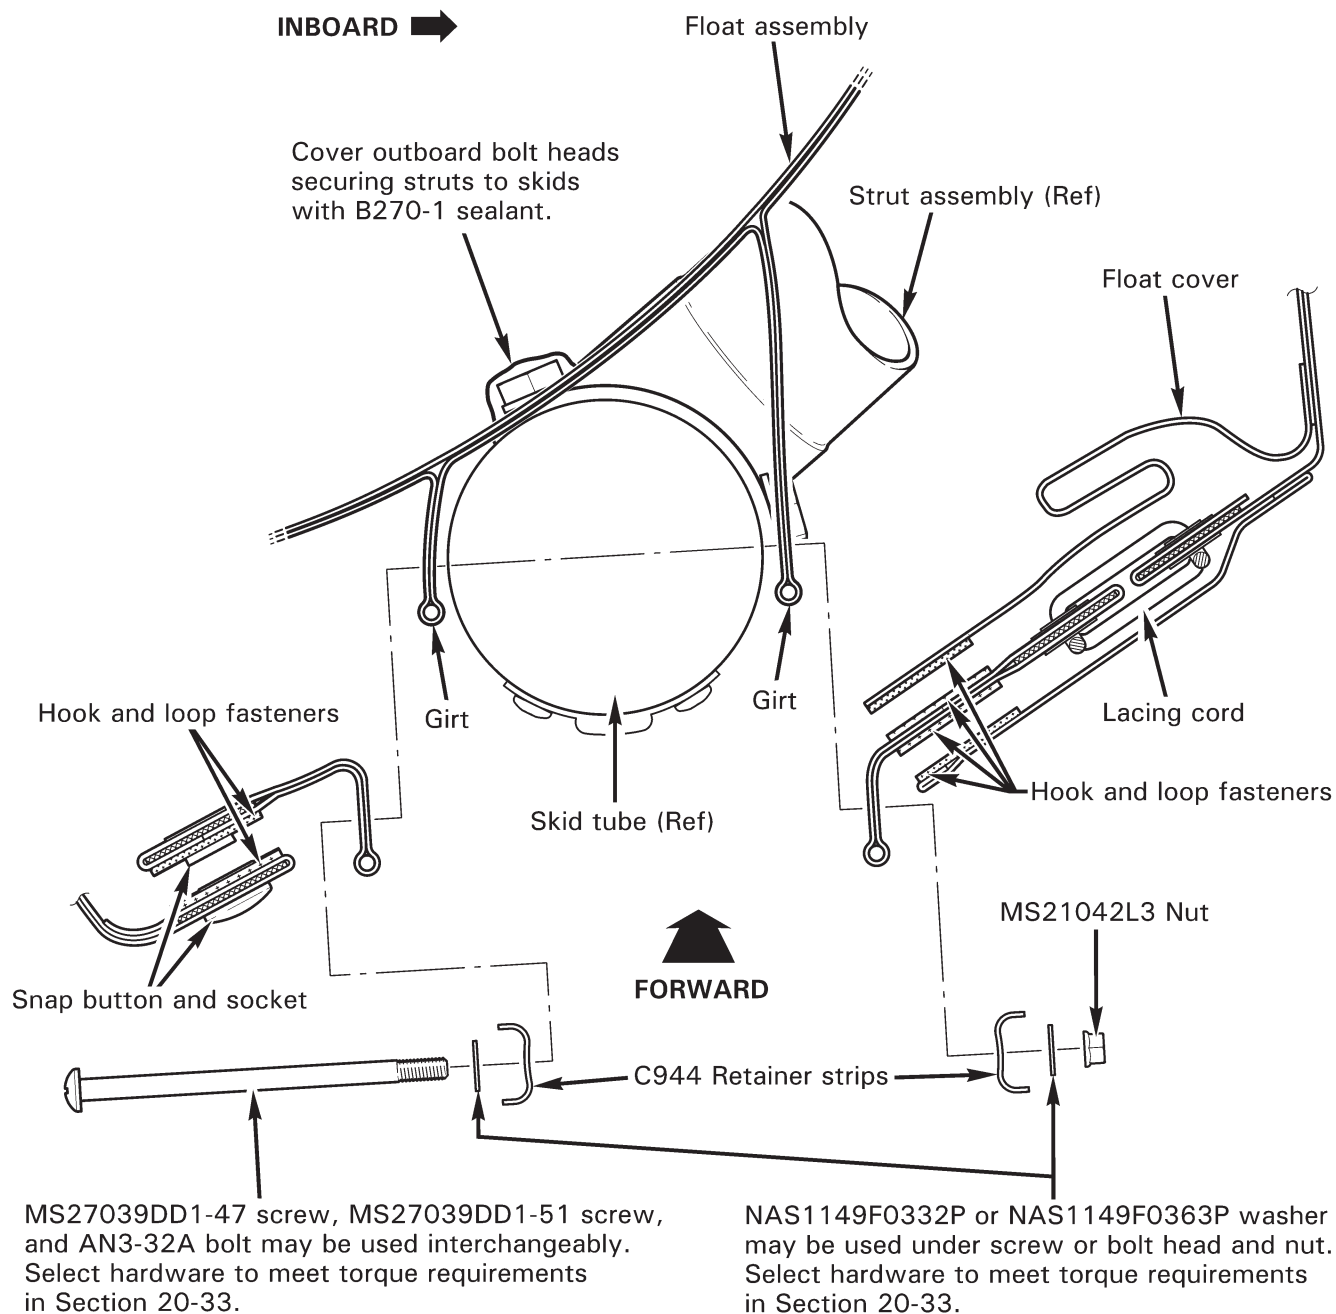
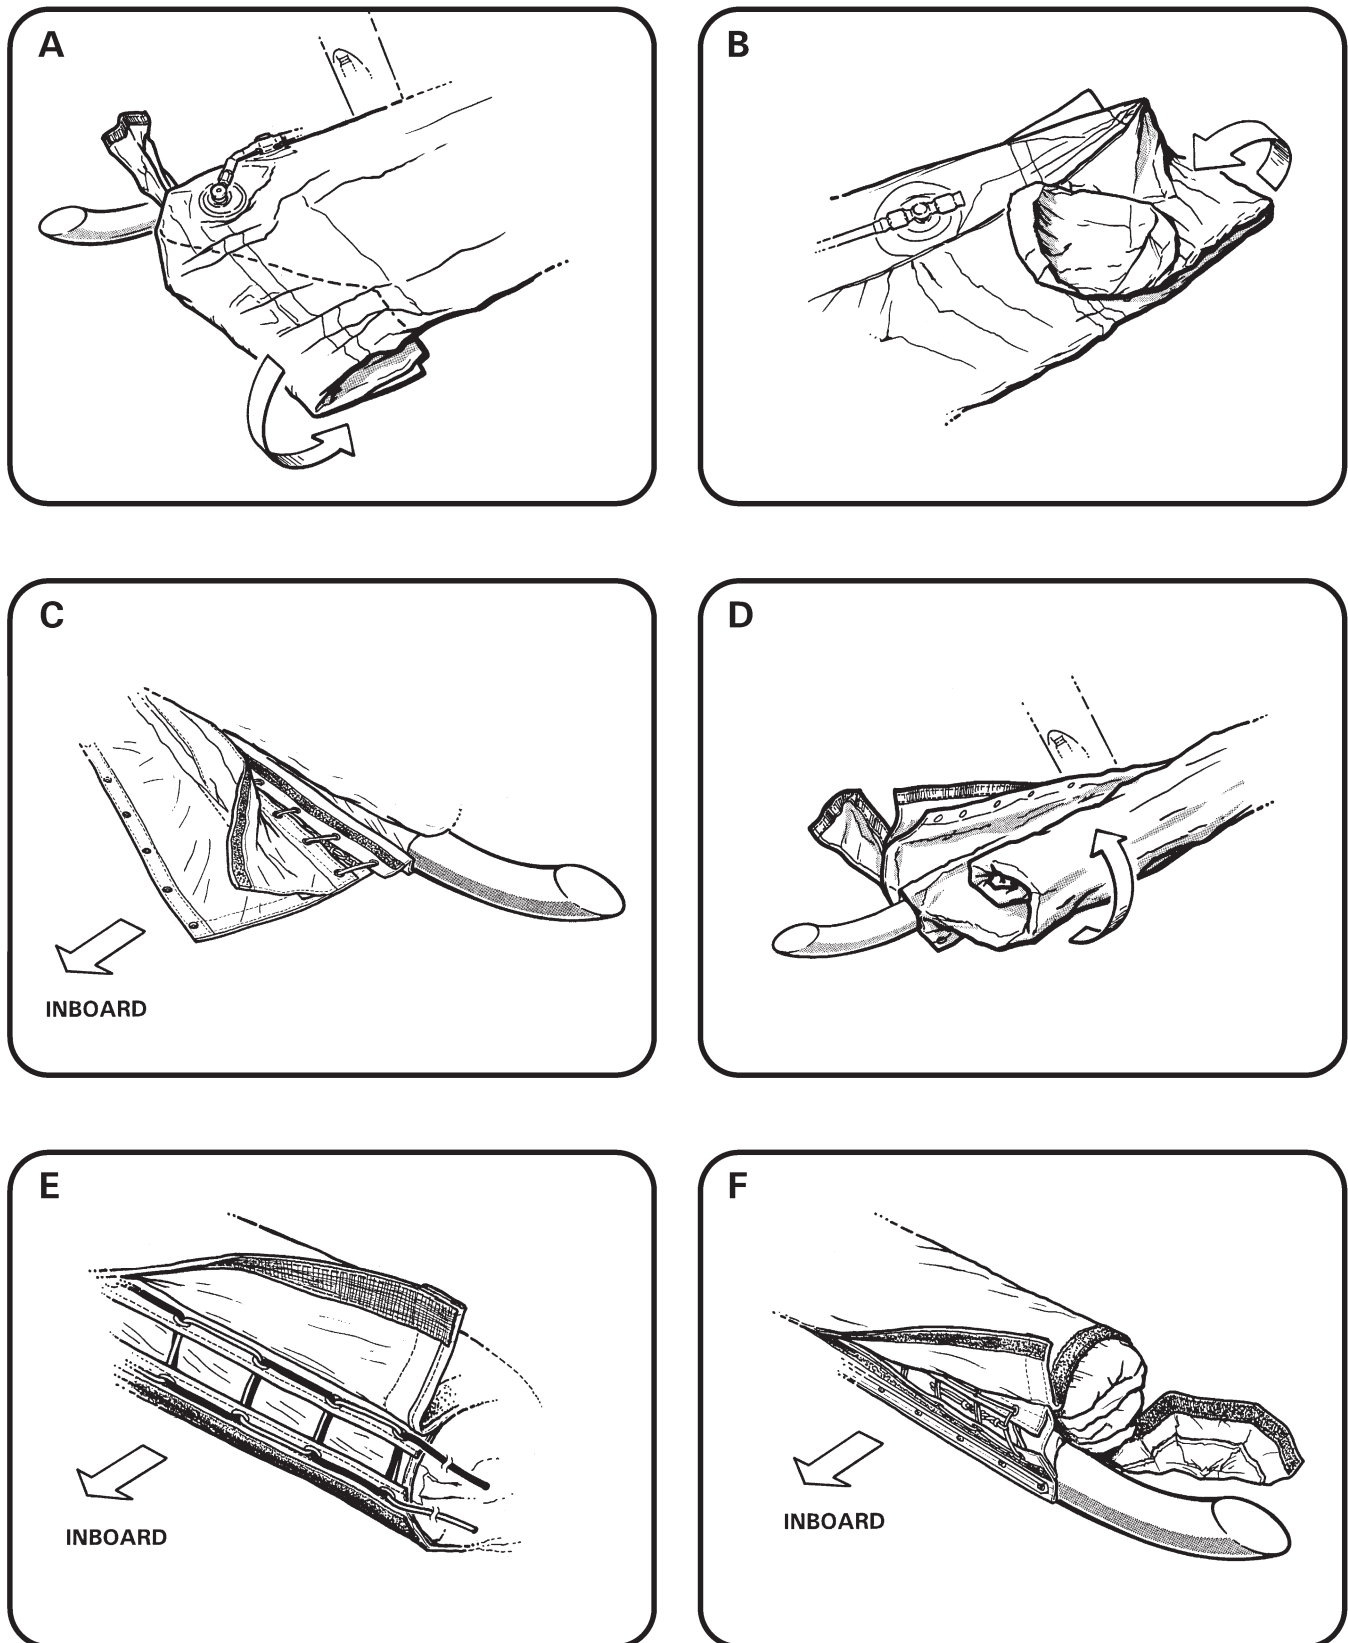

FIGURE 32-7 POP-OUT FLOATS FLOAT INSTALLATION
FIGURE 32-8 POP-OUT FLOATS FLOAT PACKING
Refer to R66 Illustrated Parts Catalog (IPC) Figure 32-7.
3. Refer to Figure 32-7. Detach float cover hook and loop tape inboard of skid and loosen lacing.
1. Refer to Figure 32-7. Verify (outboard) bolt heads securing struts to skids are covered with B270-1 sealant. Apply additional sealant as required.
5. Refer to Figure 32-7 and Figure 32-8 Detail A. At girt forward edges, fold float perpendicular to skid tube; tuck material under and aft of float as shown.
6. Refer to Figure 32-8 Detail B. At girt aft edges, fold float perpendicular to skid tube; lay material over and forward of float as shown.
7. Refer to Figure 32-8 Detail C. Loosen lacing cords securing float cover to inboard girt. Detach, align, and secure inboard hook and loop fasteners.
8. Refer to Figure 32-8 Detail D. Align hoses and valve cover flaps. Roll float from outboard edge toward skid tube, as tightly as possible. Hold float on top of skid.
10. Refer to Figure 32-8 Detail E. Verify lacing cords are installed in cover grommets in crossover ("ladder" lacing) method shown. Tighten cords starting at the aft skid extension working forward: at each segment, pull cords tight or until material edges join, but do not overtighten near valves. Tie cord ends in double square knots (4 alternating overhand knots).
11. Refer to Figure 32-8 Detail F. Tuck-in cord ends and secure hook and loop fasteners. Secure hook and loop fasteners at end caps.